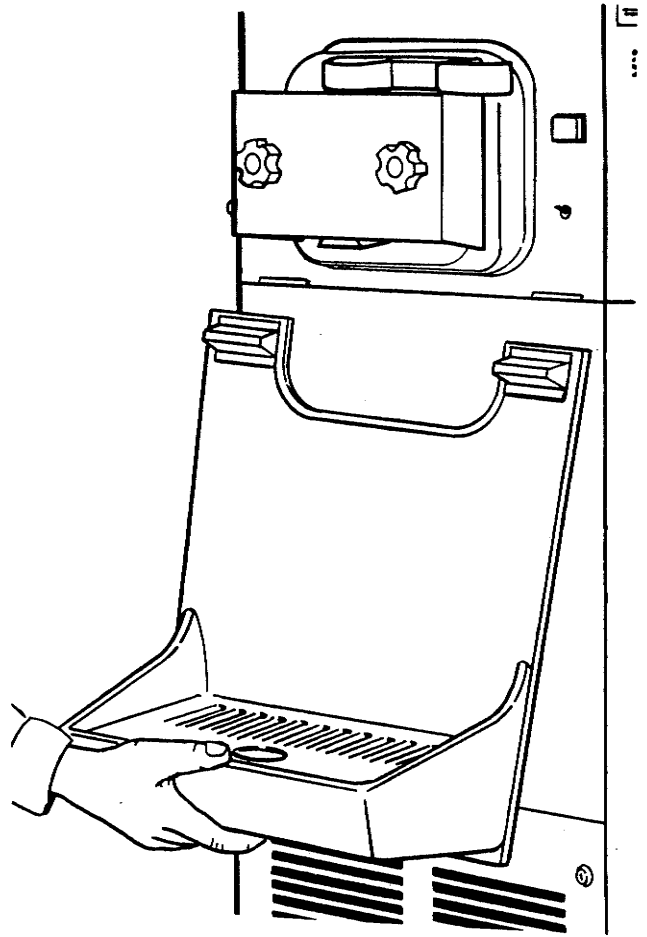

Figure 7. Installing Tray and Insert
F. Install the drip tray, insert and other miscellaneous parts on the freezer (Fig. 7).